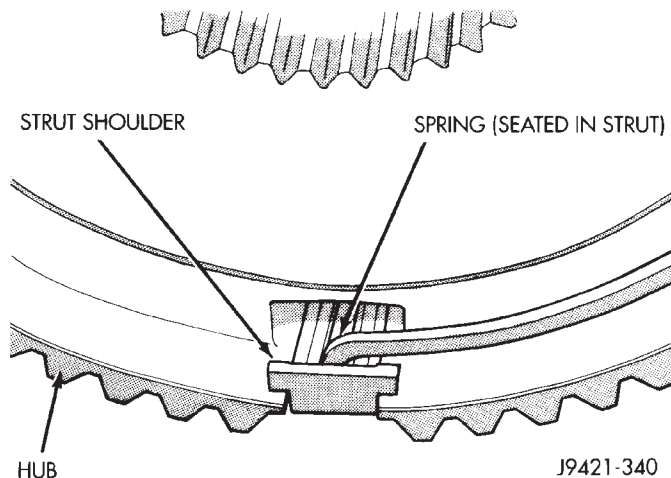

Fig. 72 Synchro Spring Installation
- Insert hooked end of first spring in center of strut to secure it. Then work spring into hub (Fig. 72).